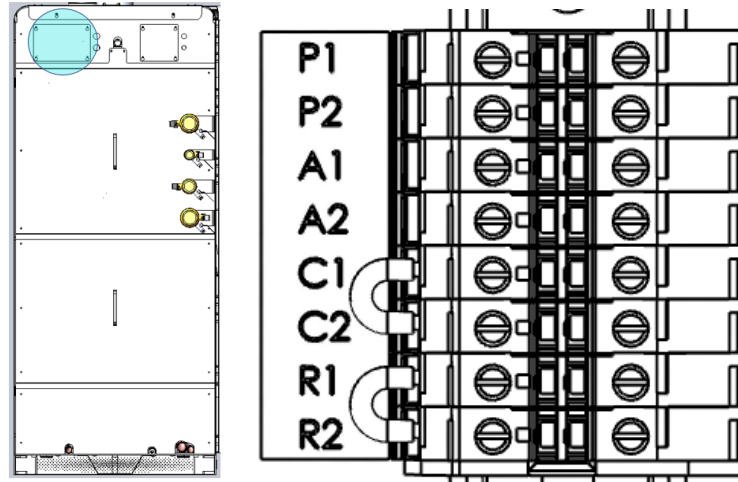

Figure 4-1 – Interlocks and Controls Terminal Block
2. At the rear of the Element, remove the panel screws on the left service panel per Figure 4-1.